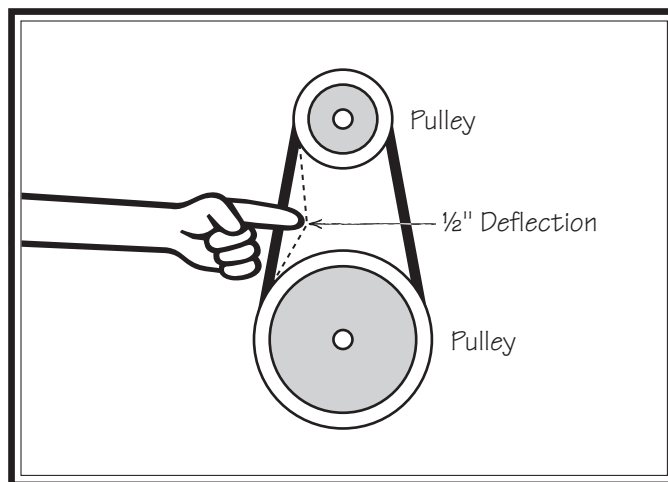

Figure 61. Checking V-belt tension.
3. Lower motor and adjust belt tension with tension rod adjustment nuts so there is approximately $\frac{1}{2}$ " deflection when belt is pushed with moderate pressure, as shown in **Figure 61**.